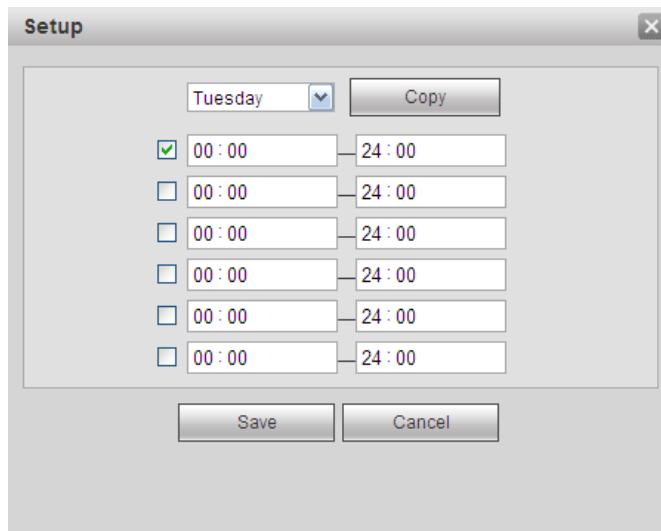

Figure 4-32
2. In the resulting setup dialog (see Figure 4-32), select a day of the week from the drop-down menu.